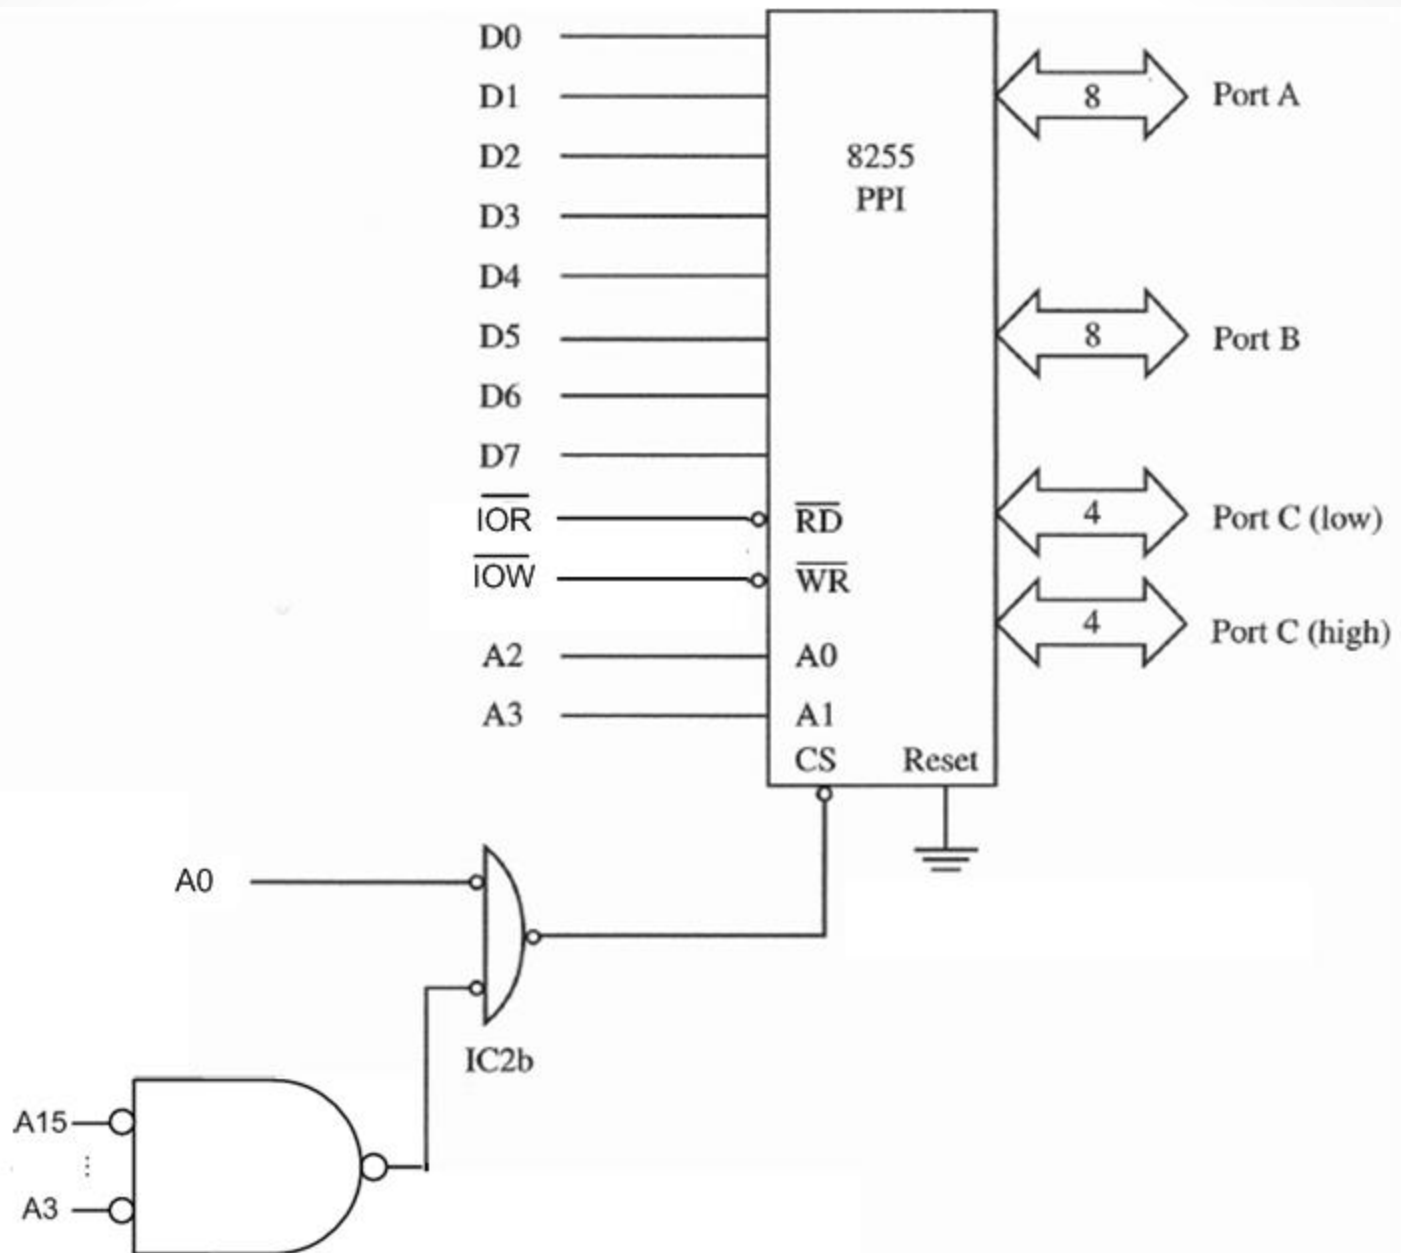

Figure 5: Circuit design of Example 2.
- **Example 2:** Write the 80x86 initialization routine required to program the 8255 in Figure 5 for mode 0, with port A as an output and ports B and C inputs